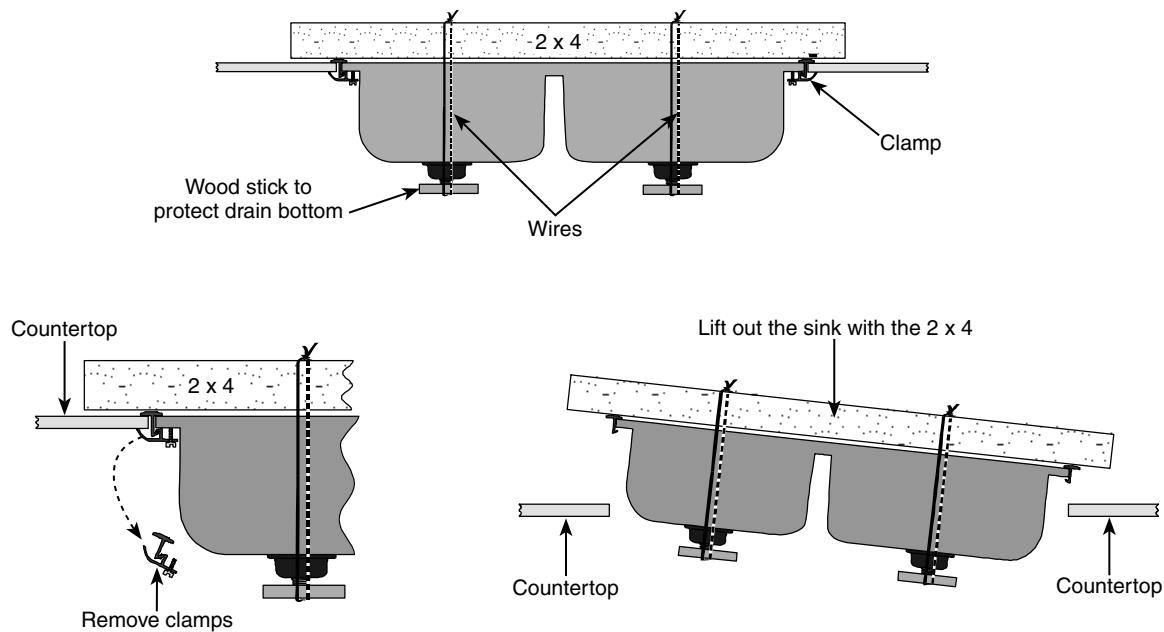

Figure 17-5
1. Lay a short piece of 2 x 4 on the countertop, across the length of the sink, and run wires up through the sink drains, twisting them around the 2 x 4; see Figure 17-5.